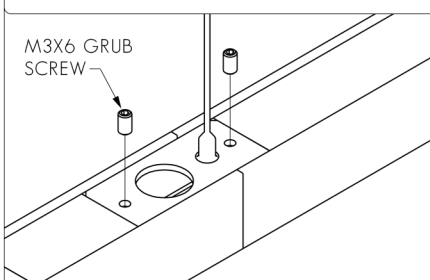

FIG. 2 - CHECK POSITION OF BRACKETS & DIFFUSERS
6. SLIDE DIFFUSERS INTO EXTRUSION (SEE FIG. 2).